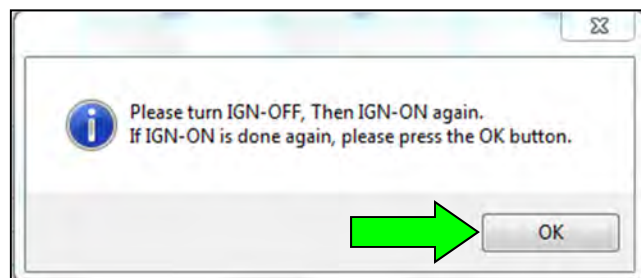

Figure 9
15. When the screen in Figure 9 displays, turn OFF the ignition, and then turn ON the ignition.